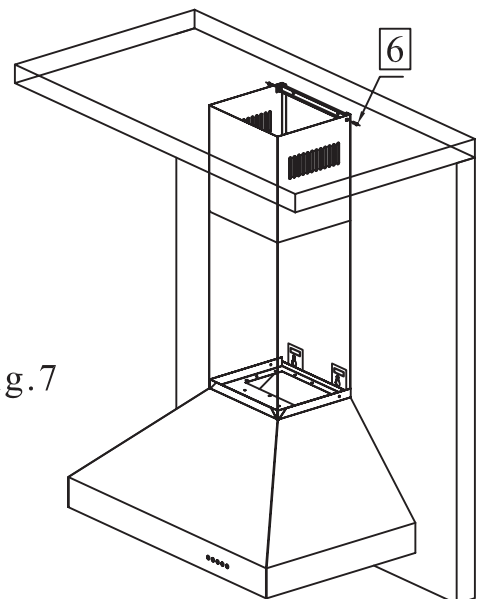

fig.7
Step 8: Slide the upper portion up and over the top mounting bracket aligning the holes and securing with the screws provided. fig. 7